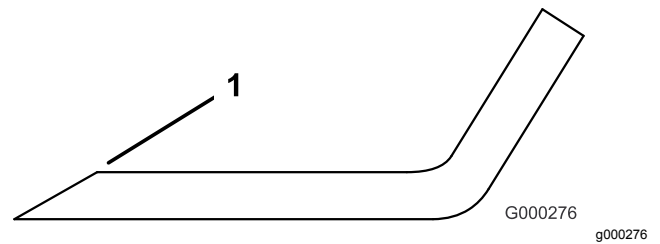

Figure 111
1. Use a file to sharpen the cutting edge at both ends of the blade (Figure 111).